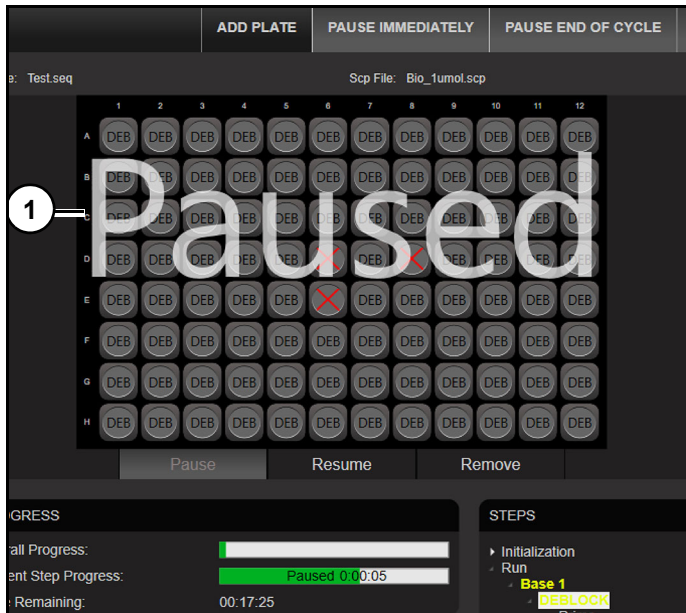

Figure 105
When pause point is reached, instrument will pause, and status will be highlighted yellow and plate graphic will show "Paused" (1). (Figure 105)